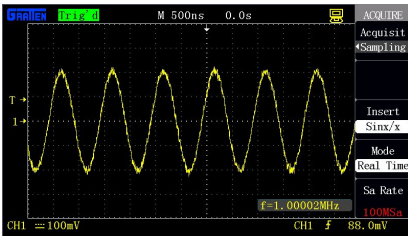
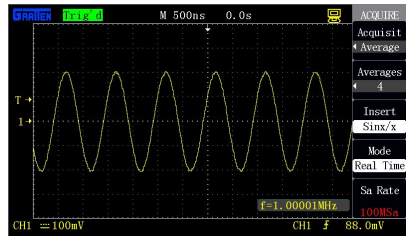

Figure 2-40 Sampling mode
Figure 2-41 Average mode
**Advantage:** Random or unrelated noises in the displayed signal can be reduced at the mode. The signal shown in figure 2-40 has loud noises, while the signal shown in figure 2-41 adopts the average mode, so the noises are greatly reduced. What calls for attention is that: the higher the average time is, the better the waveform quality is, but the slower the refreshing speeds of the waveform is.